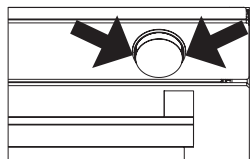
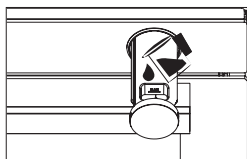
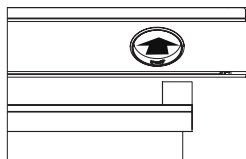

Figure 17
Figure 18
Figure 20
1. Remove the water container by pulling it out at the points indicated by the arrow. Fill the water container (See figure 17) and slide it in the direction of the arrow to the starting position to put it in place (See figure 18,19). After 10 minutes of preheating, slide the water container in the direction of the arrow until you hear a "click" (See figure 20).